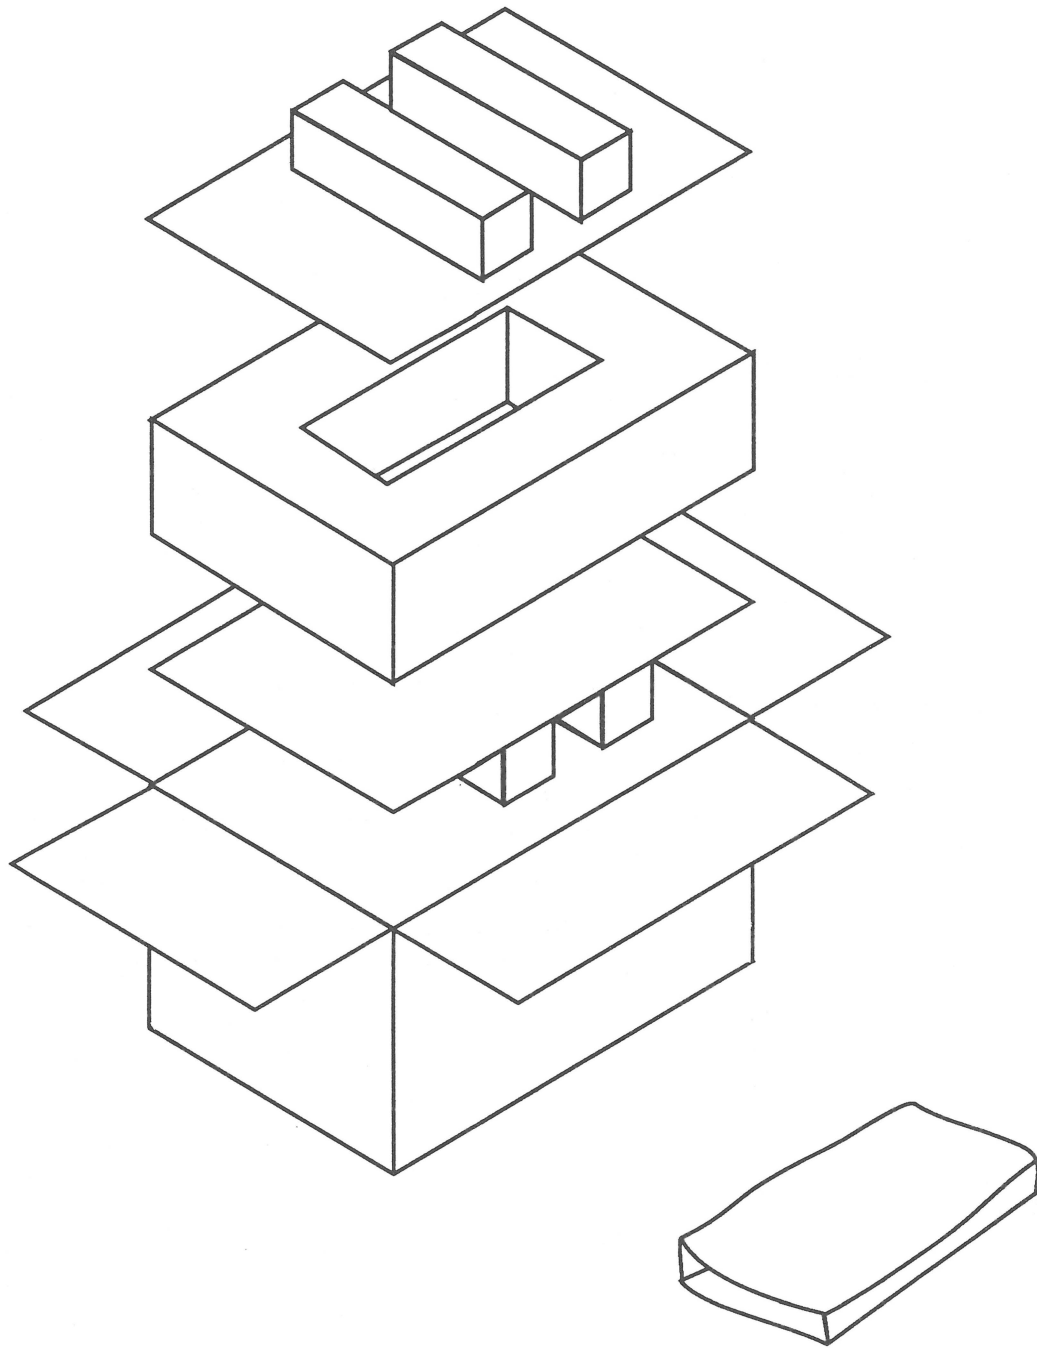

FIGURE 2
(Figure 2)
□ **SERVICE PACKAGING, 800K/1.4 MB DRIVES (Figure 2)**